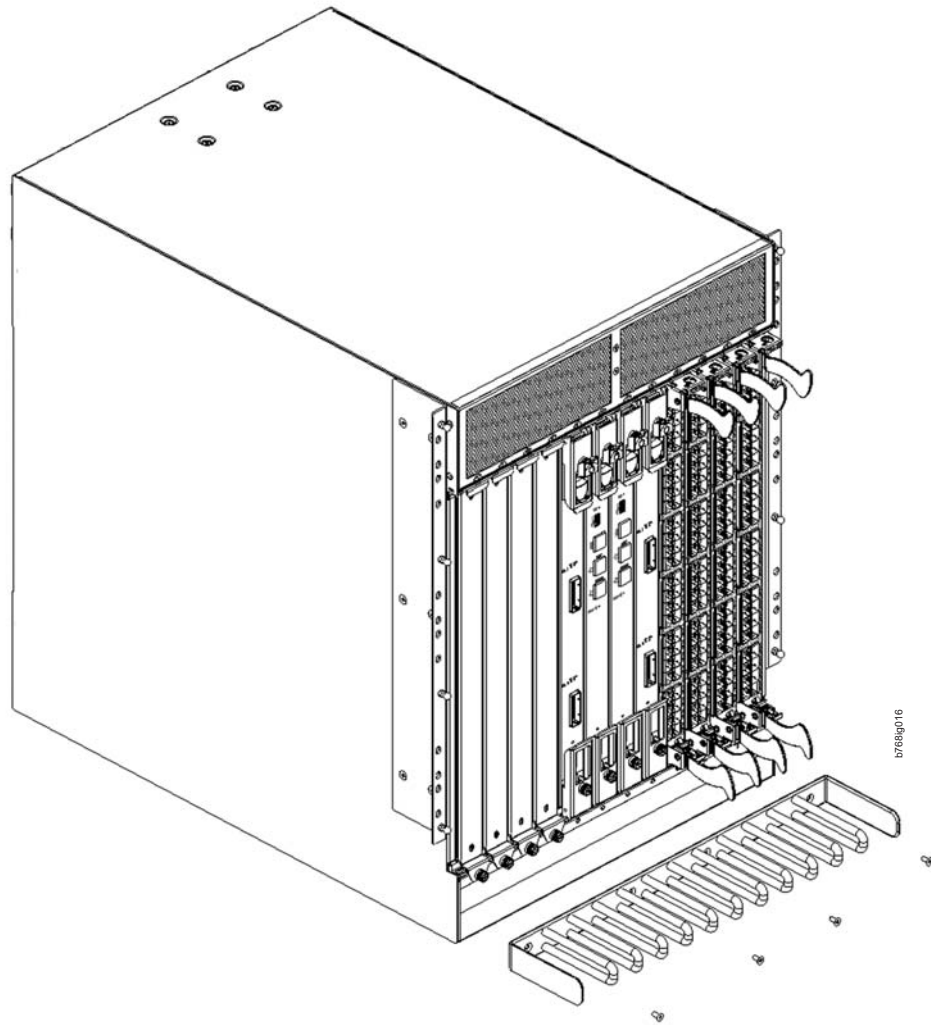

Figure 30. Cable management comb
3. Unscrew and save the four screws holding the comb to the chassis (see Figure 30 on page 71). Support the comb to prevent it from falling.